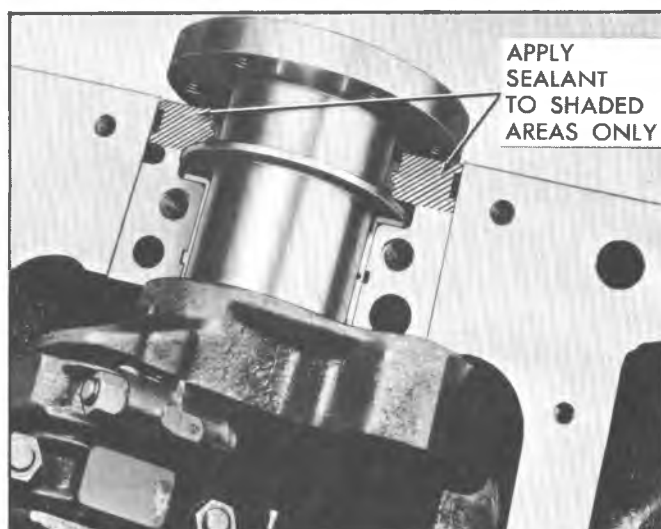

Fig. 4—Sealing Bearing Cap and Block
- e. Apply a thin coat of brush-on type oil sealing compound to block mating surface and corresponding surface of cap only (fig. 4). Do not allow sealer on crankshaft or seal lip.